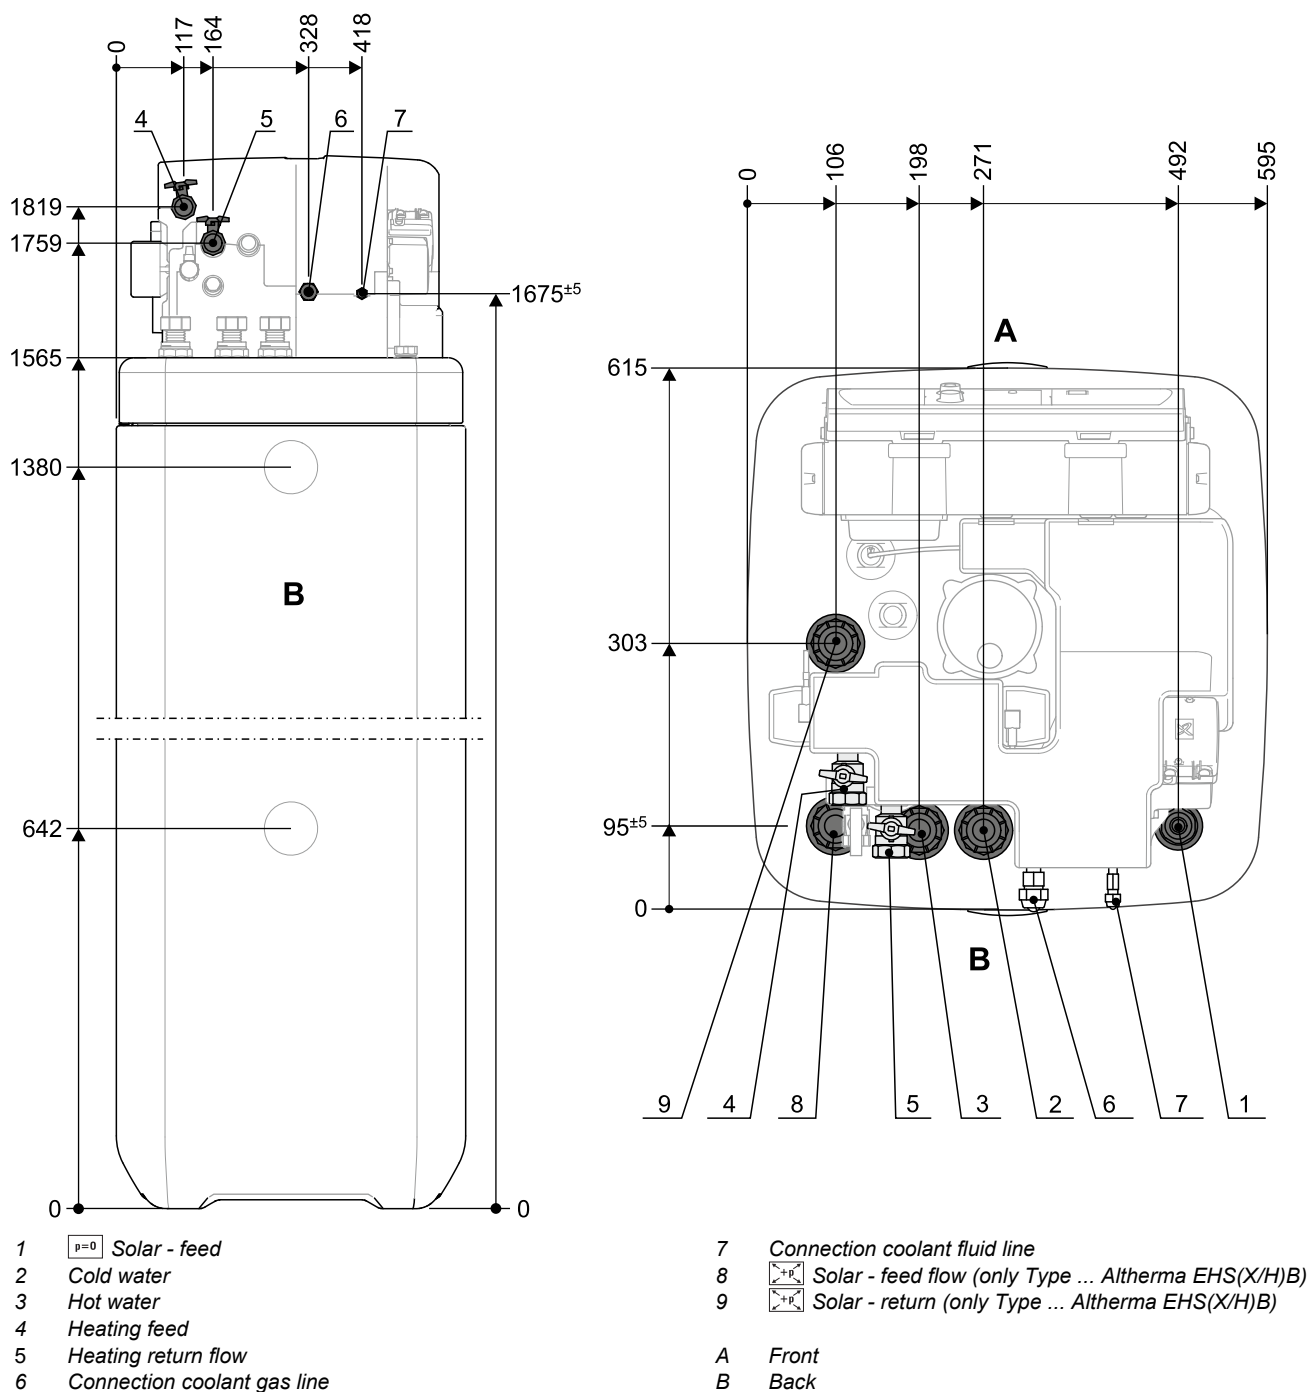

Fig. 3-1 Connections and dimensions Daikin Altherma EHS(X/H)...P30A (general)
If the **heat exchanger** for charging the **pressurised solar system** (fig. 3-1 / fig. 3-2, item 8+9) has an **external heating unit** (e.g. wood-burning boiler) connected to it, an excessive flow temperature at these connections can damage or destroy the Daikin Altherma EHS(X/H)B.
- Position and dimensions of the heating connections to be taken from fig. 3-1 / fig. 3-2 and from tab. 2-1.